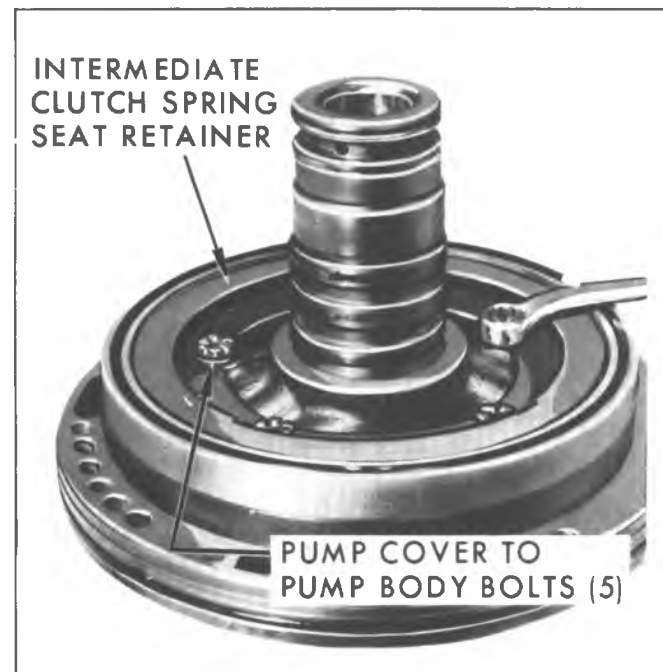

Fig. 7A-58B—Removing Pump Cover to Pump Body Bolts
4. Remove intermediate clutch piston inner and outer seals (fig. 7A-60B).